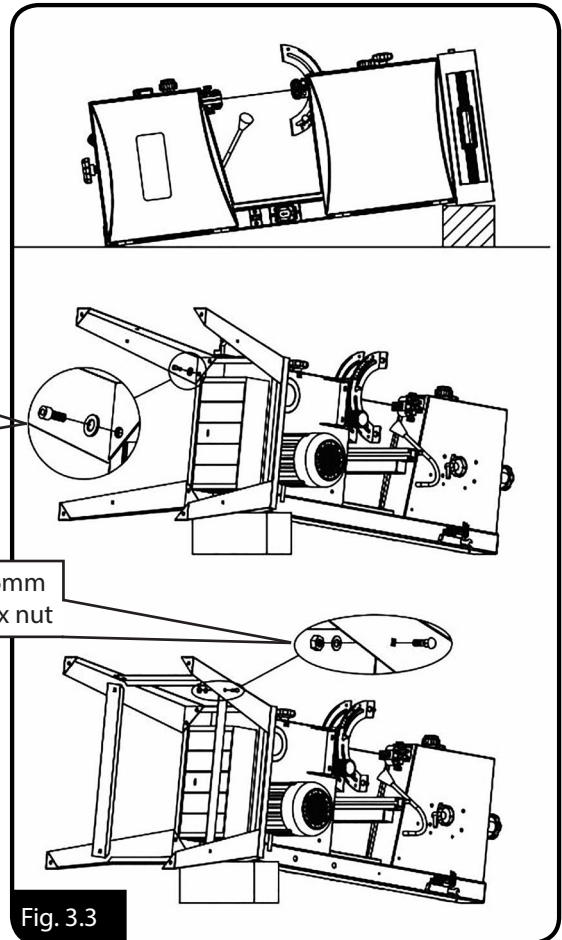

Fig. 3.3
- ❑ Put down the machine on a timber (Fig. 3.3)